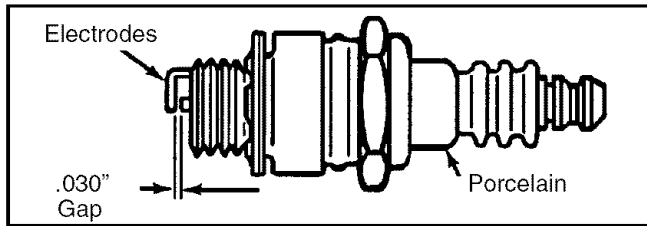

Figure 8
- Replace the spark plug if electrodes are pitted, burned, or the porcelain is cracked. See Figure 8 .